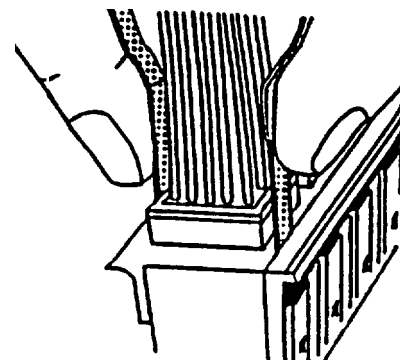

Figure 25. Series II Block Removal
b. While holding the tool tightly, remove both the tool and block from the rail (Figure 25).